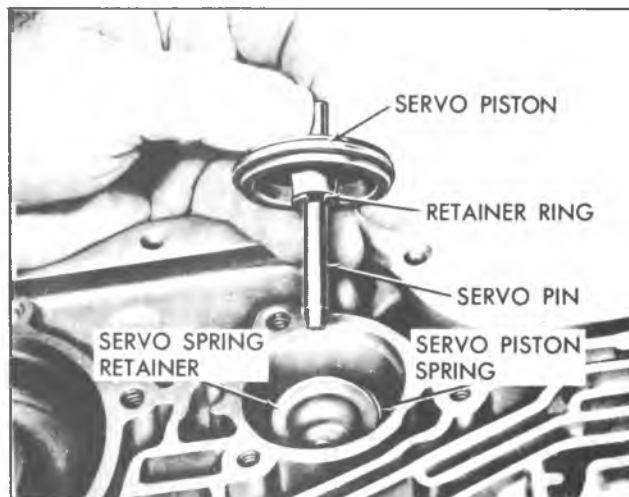

Fig. 7A-20C--Removing Front Servo Piston, Retainer Ring, and Pin
6. Withdraw electrical connector and "O" ring seal (Fig. 7A-19C).
8. Remove six (6) check balls from cored passages in transmission case. Mark location of balls for aid in reassembly.